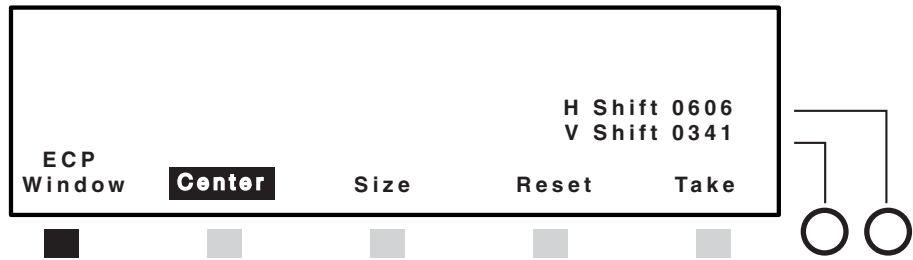

Figure 3-15 — ECP control
5. Pressing the leftmost ECP control button toggles between Window and Key (figure 3-15). This determines the function of the Title button on the ECP 1000.